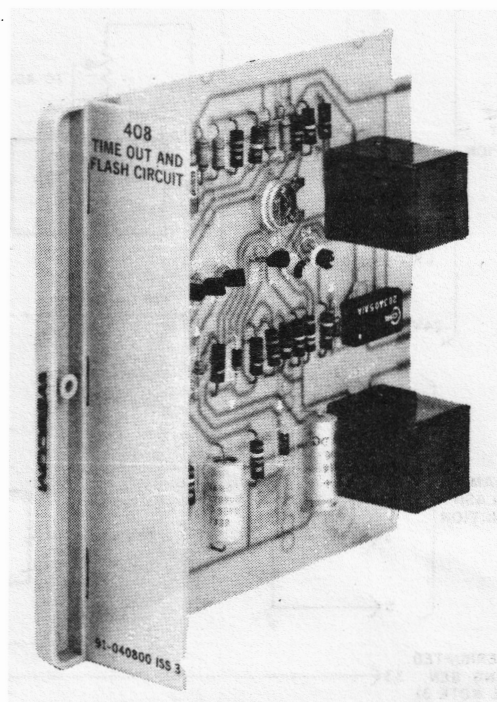

Figure 1. 408 Time-Out and Flasher Module
1.02 The 408 Time-Out and Flasher Module, Figure 1, is a plug-in, printed circuit module used to provide ringing and lamp flash interruption for subscriber station apparatus.